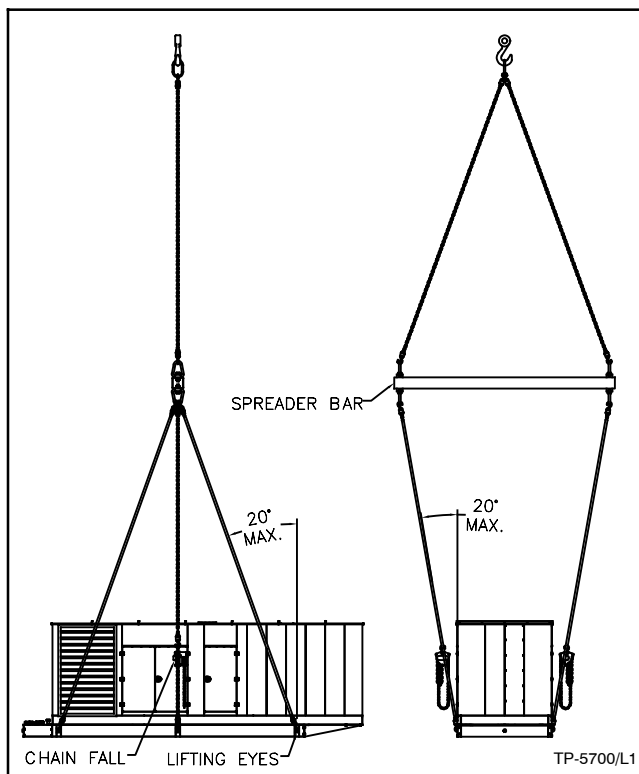
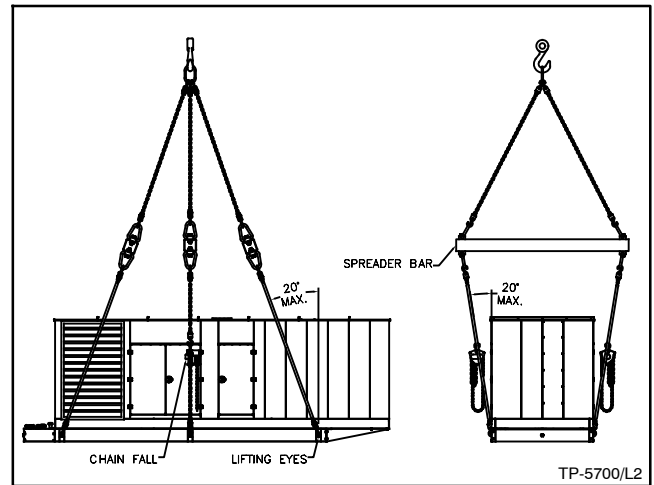

Figure 2-11 Six Eyes, Single Spreader Bar, and Two Chain Falls Lifting Method
Figure 2-12 Six Eyes, Three Spreader Bars, and Two Chain Falls Lifting Method
Apply one spreader bar and two chain falls (Figure 2-11) or three spreader bars and two chain falls (Figure 2-12) for six eye lifting.
- Install a pair of outer slings to the maximum angle as shown in Figure 2-11 and Figure 2-12.